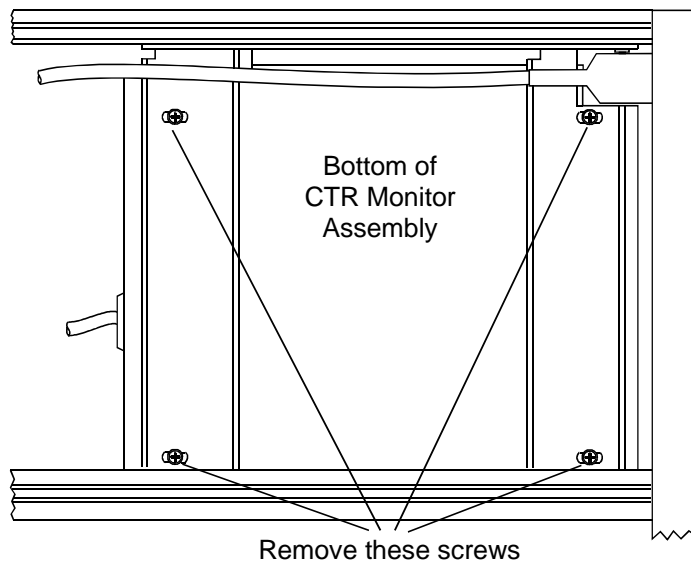

Figure 6-6. CRT Removal
- Step 3.** Remove four screws, flat, and lock washers (Figure 6-6).